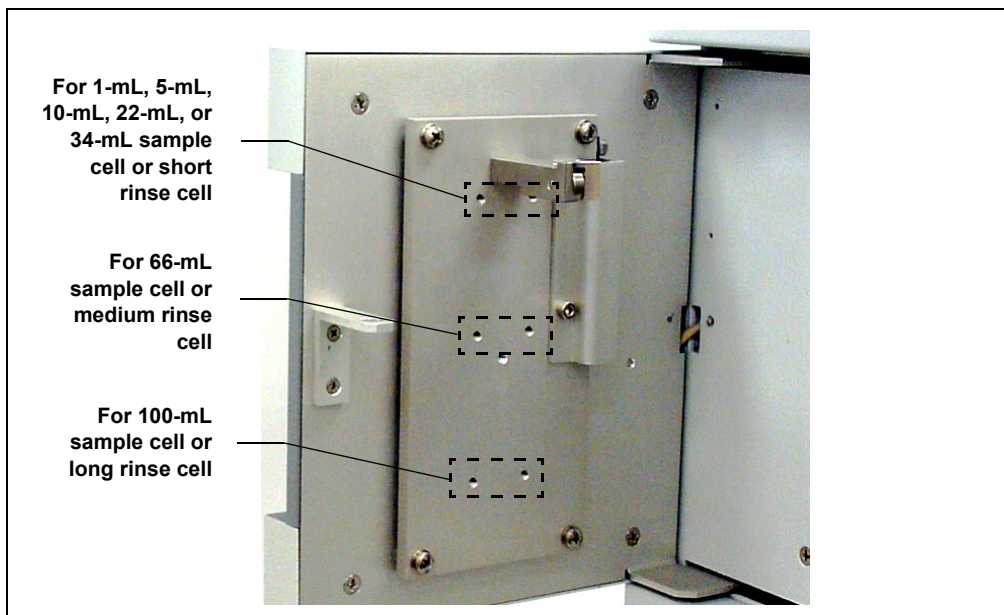

Figure B-8. Mounting Sites for the Cell Holder Lower Latch
When the Dionex ASE 150 is shipped from the factory, the cell holder is positioned to hold a 100-mL sample cell (or a long rinse cell). To accommodate a cell of any other size, move the lower latch of the cell holder (see Figure B-7) to the appropriate mounting site on the cell door (see Figure B-8).
3. Position the latch in the new location on the cell door (see Figure B-8) and install the hex screws. The Dionex ASE 150 Ship Kit (P/N 066399) includes two extra hex screws, in case the original screws are misplaced.